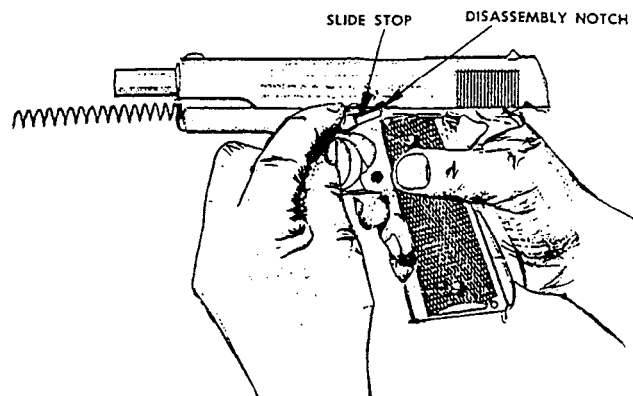
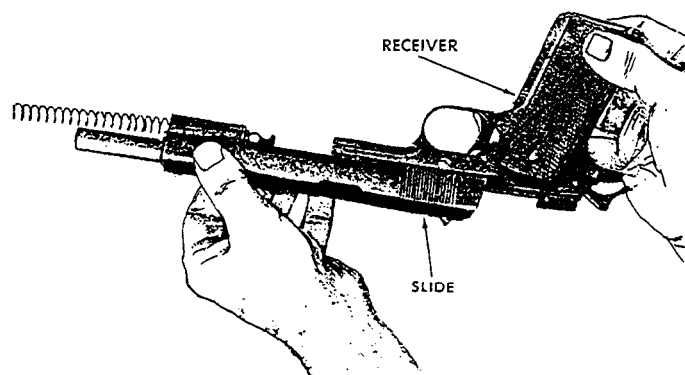
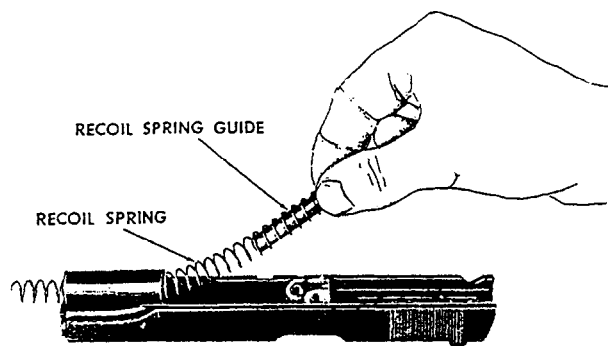

Figure 3-32.—Slide stop removal.
Figure 3-33.—Separating the receiver from the slide by pulling the receiver rearward.
Figure 3-34.—Recoil spring guide and recoil spring removal.
3. Press the thumb safety lock downward to the FIRE position. Push the slide to the rear until the disassembly notch, as shown in figure 3-32, is aligned with the rear projection on the slide stop. Press the protruding end of tie slide stop, and then pull out the slide stop.
4. Pull the receiver rearward to separate it from the slide, as shown in figure 3-33.
5. Remove the recoil spring guide and recoil spring, as shown in figure 3-34. Separate the two parts with a twisting action.
3. RECOIL SPRING AND RECOIL SPRING GUIDE. Insert the recoil spring guide into the tightest end of the recoil spring. Replace these parts in the slide. (See fig. 3-34.) Be sure the concave cut on the recoil spring guide collar is properly seated in the barrel. Push the barrel, recoil spring, and recoil spring guide frilly forward in the slide, ensuring that the barrel link is positioned forward and rests against the hole in the recoil spring guide. (See fig. 3-33.)
4. **ASSEMBLING THE RECEIVER GROUP TO THE SLIDE GROUP.** Hold the slide with the sights down in the palm of one hand. Invert the receiver (the safety lock must be in the FIRE position) and engage the guide rails of the receiver in the grooves of the slide. (See fig. 3-33.) Push the receiver all the way forward on the slide with a quick motion.
5. **SLIDE STOP.** Hold the pistol as shown in figure 3-33. Look through the slide stop pinhole in the receiver for alignment of this hole with the hole in the barrel link. If the holes are not aligned, move the muzzle end of the barrel forward or rearward to align them. Insert the slide stop pin into the holes. Move the slide forward until the disassembly notch is over the square hole in the left side of the receiver. (See fig. 3-32.) Press the slide stop up and in to seat it fully. In some cases, a punch may be required to depress the slide stop plunger in order to seat the slide stop fully.